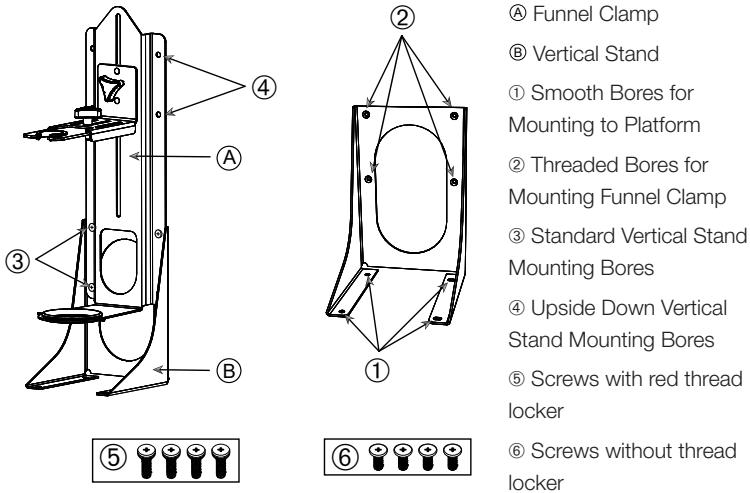

**Figure 90:** Separatory Funnel Clamp Mounting Positions
The horizontal position ③ in Figure 90 can be adjusted in height to obtain the slanted orientation shown at ④. Additionally, the separatory funnel clamp can be combined with the vertical stand (supplied as an accessory) to create the vertical arrangements shown at ① and ②. Also, the clamp can be installed with the funnel tap facing downwards ① or reversed to obtain the upside down configuration shown at ②.
1. Fit the separatory funnel clamp to the long end of the vertical mount, as shown in ① and ② of Figure 90.